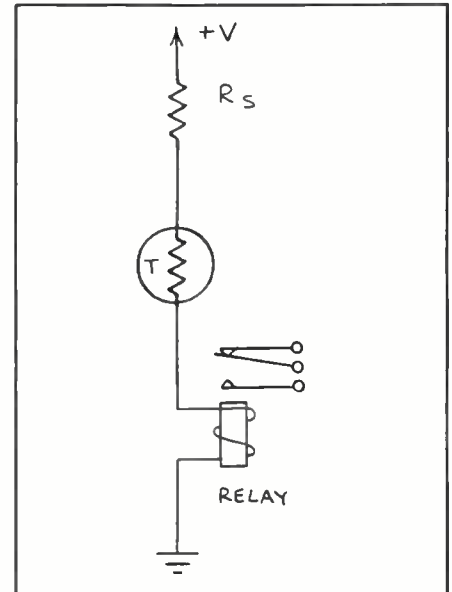

Fig. 5. A simple thermistor time-delay circuit.
• **Time-Delay Circuits.** The reduction of resistance that results from self-heating that permits thermistors to serve as surge protectors also allows them to function in simple timer circuits. Shown in Fig. 5 is a simple circuit I tried to verify this application. Here, resistor  $R_s$ 's 100-ohm value limits current through the thermistor and relay. The low-voltage relay pulls in when its coil current exceeds approximately 20 milliamperes at 9 volts. Radio Shack's Cat. No. 275-005 relay works well in this circuit; the company's Cat. No. 275-232 reed relay should also work.
The basic Fig. 5 circuit can be easily modified to drive high-current relays. All that is required is to monitor the current flow with an operational amplifier. The output from the op amp can then be used to switch on a power transistor that, in turn, drives the relay.